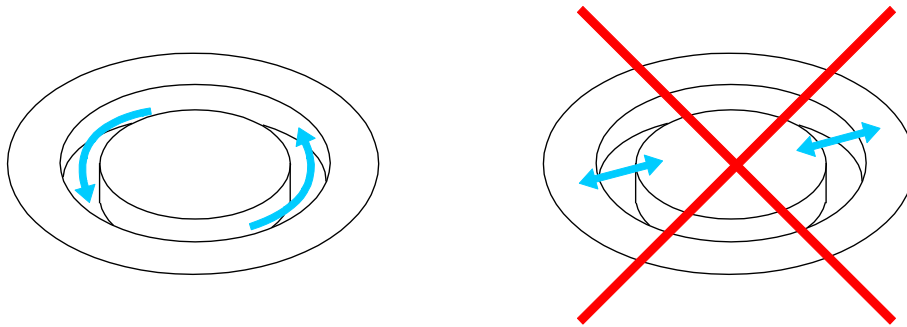

Fig. 7- 11 Direction of wiping in the groove
- Before inserting the cleaned O-ring, clean the groove with an IPA drenched cloth. Always wipe in one direction parallel to the groove, never back and forth (Fig. 7- 11).